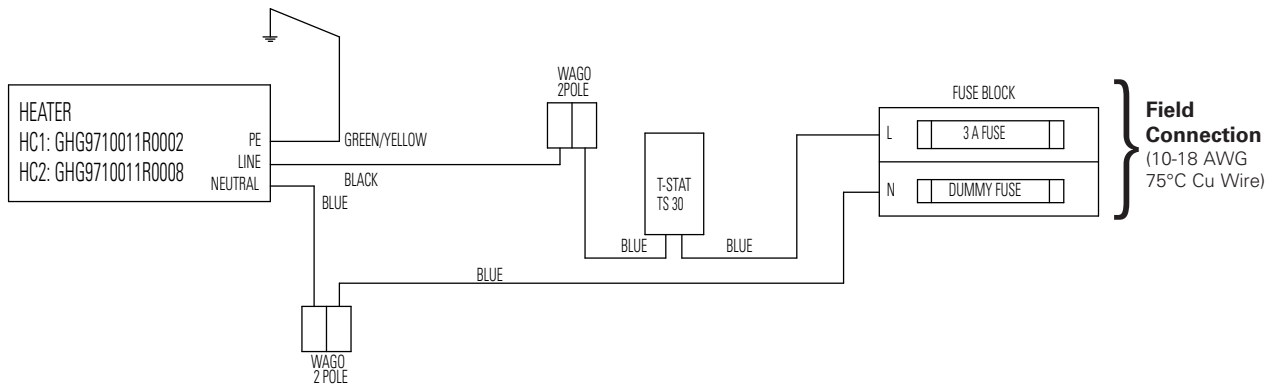
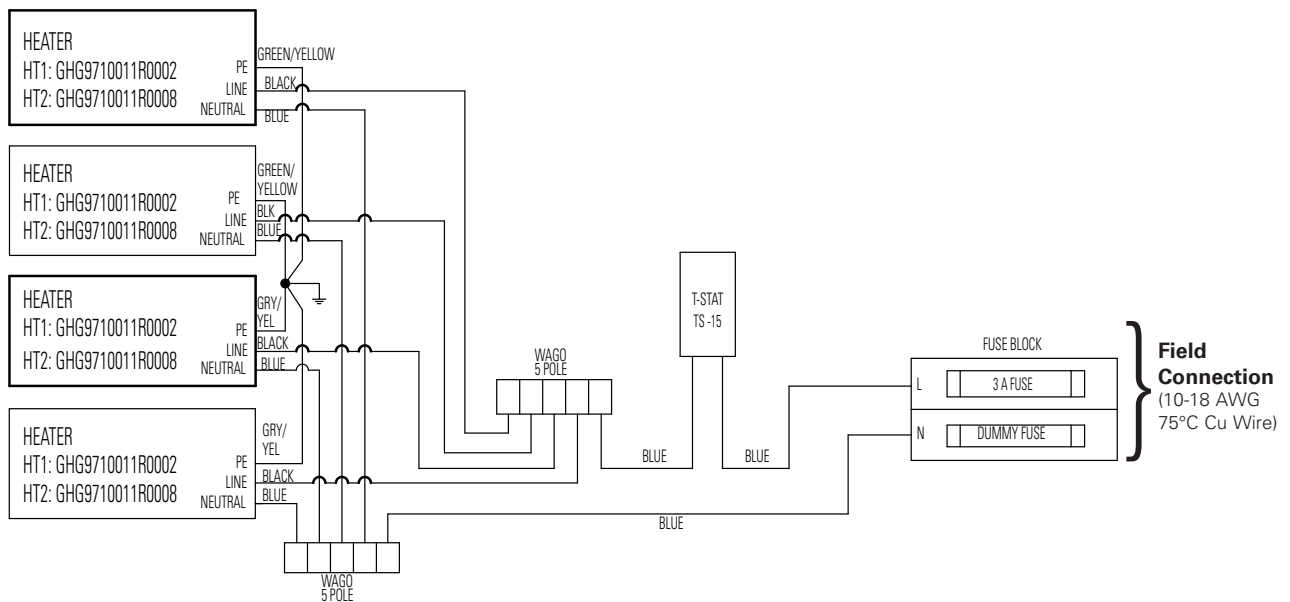

Figure 5 – Wiring Diagram-HC1/HC2
Figure 6 –Wiring Diagram- HT1/HT2
- See wiring diagrams Figure 5 and Figure 6.